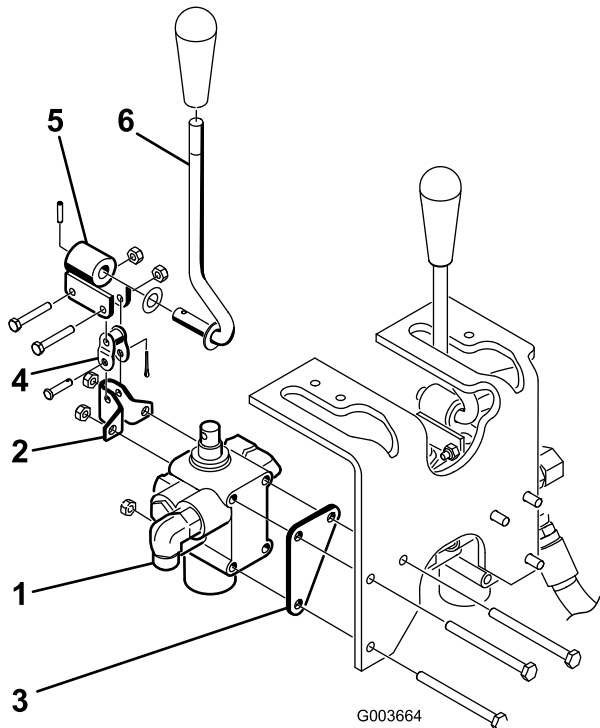

Figure 5
2. Mount the valve assembly, pivot bracket and valve plate to the frame with 3 bolts (1/4 x 3 inches) and 3 locknuts (Figure 5). Position the valve plate against the front of the frame member when mounting. Torque to 90-110 in-lb.
- Loosely mount the pivot lever assembly to the valve spool and to the offset link with 2 bolts (#10 x 1-1/4 inch) and 2 locknuts (Figure 5). Do not tighten at this time.